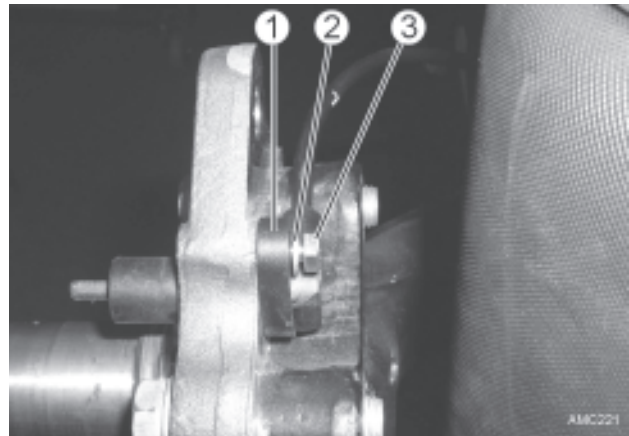
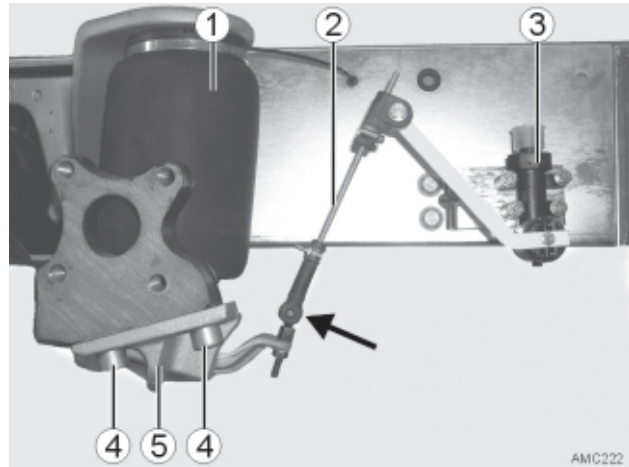

Fig. 44
Fig. 46
9. Unscrew hexagon bolt (Fig 44 -3) with washer (Fig 44 -2) and remove ABS sensor (Fig 44 -1), (if fitted).
11. Remove air bellows (Fig 46 - 1) as per chapter 7.2.
12. Unhook air sensor (Fig 46 -3) for the path sensor rod assembly (Fig 46 -2) (Fig 46 - Arrow).
13. Unscrew two M16x1.5x30 socket head cap bolts (Fig 46 - 4) from the bottom air bellows (Fig 44 -5).